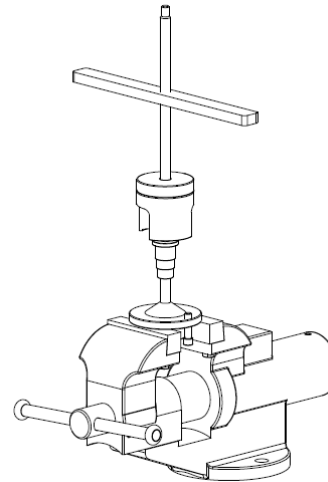

Figure 19
Use the disassembly tool (see figure 19, next page) to disassemble the cam (9). The pulley is spring loaded with significant amount of force, the use of the disassembly tool will keep the pulley compressed.
- Using a vice, mount the disassembly tool as shown in figure 19.